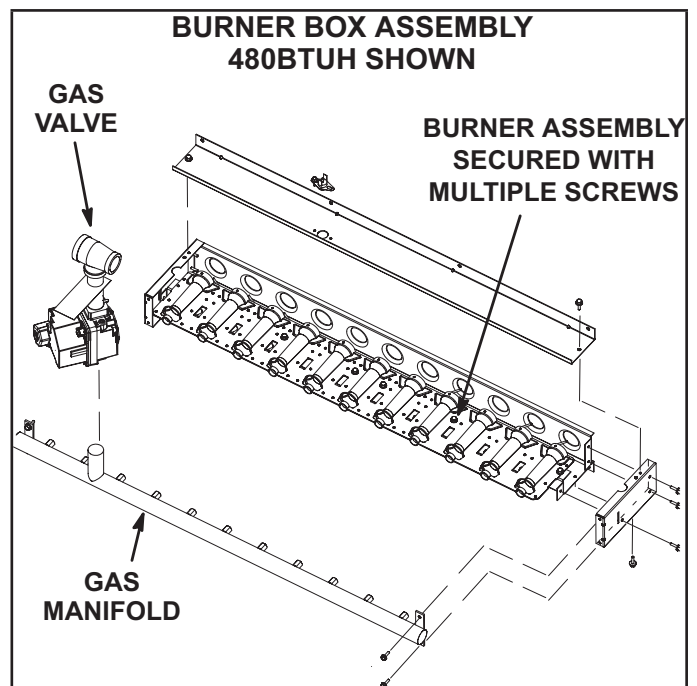

FIGURE 48
- 3 - Remove screws securing burner assembly to burner support and remove assembly. See FIGURE 48. Clean as necessary.